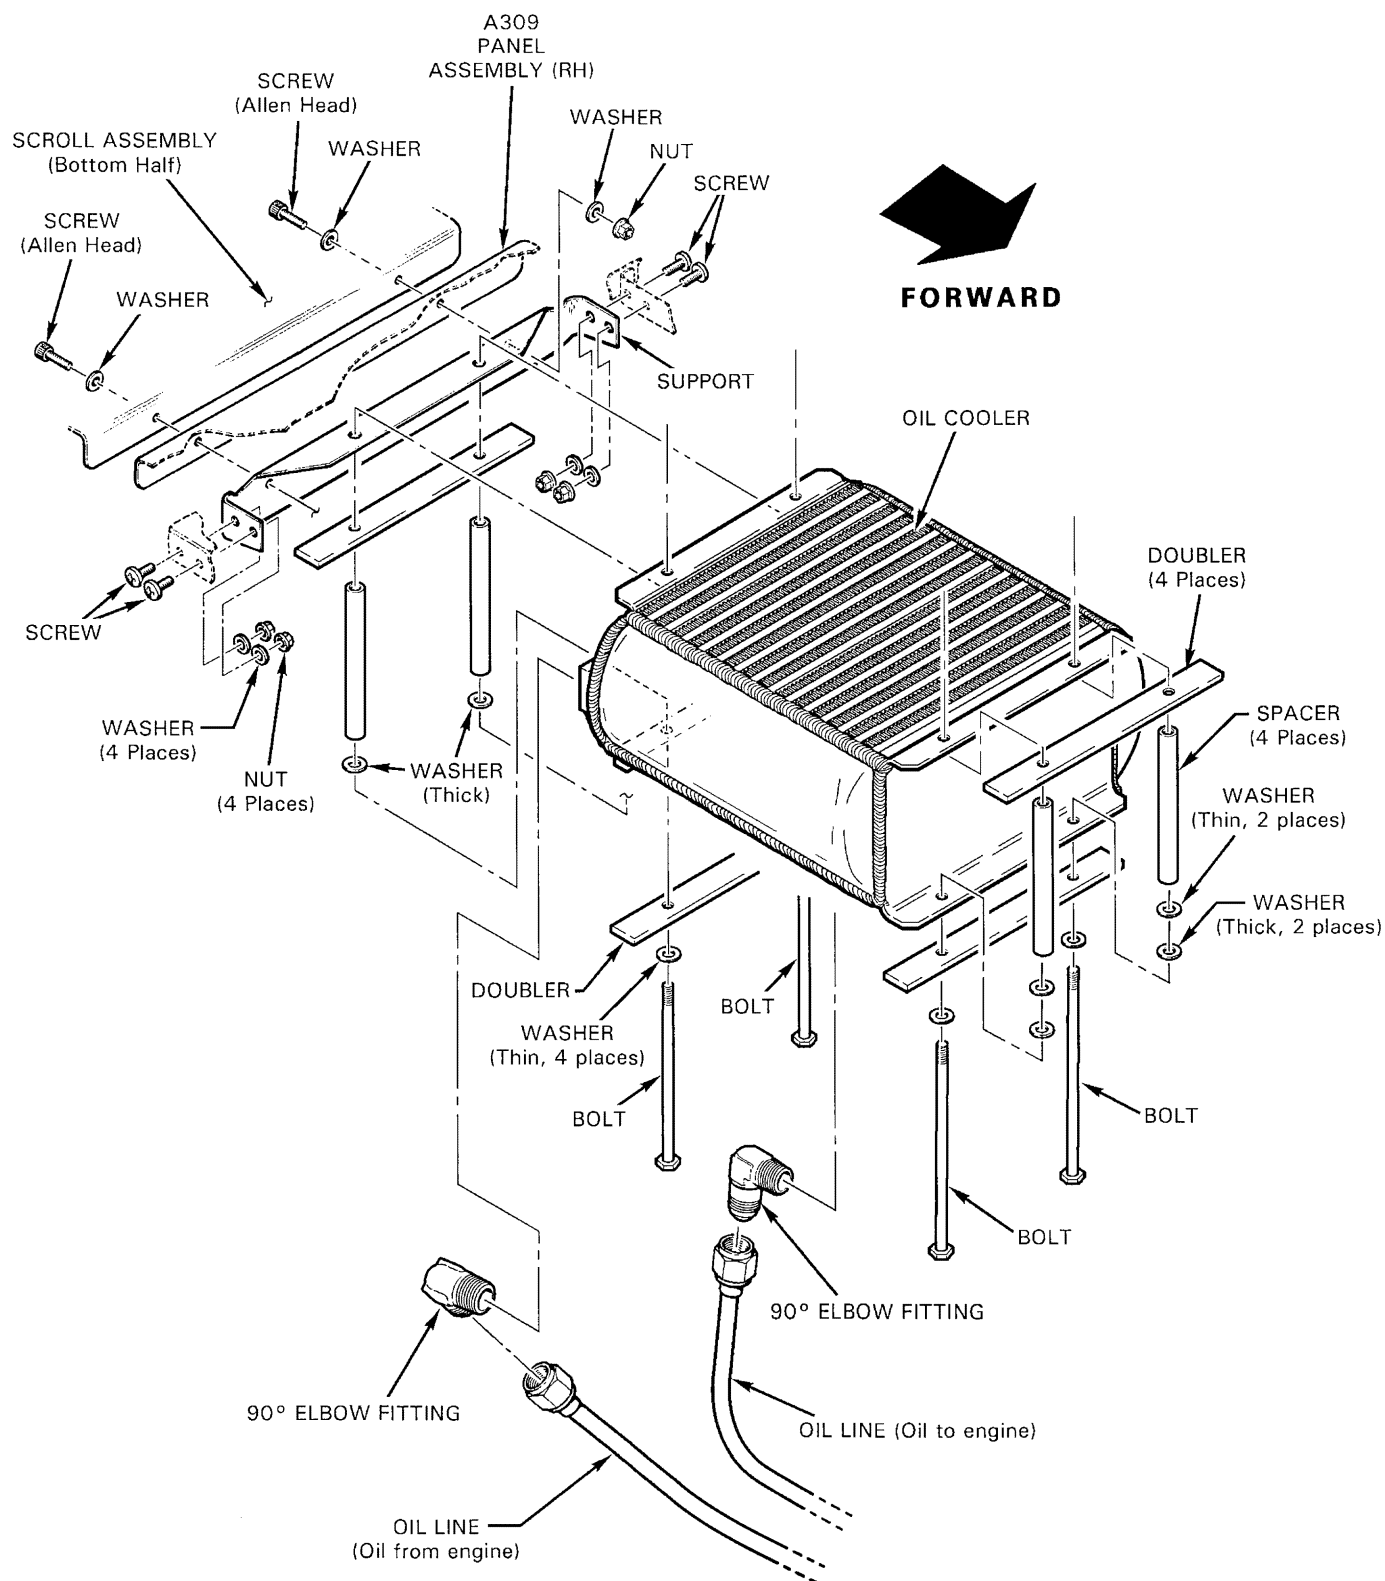

FIGURE 6-6 OIL COOLER INSTALLATION
2. Install four screws and nuts connecting support to cooling panels (See Figure 6-6).